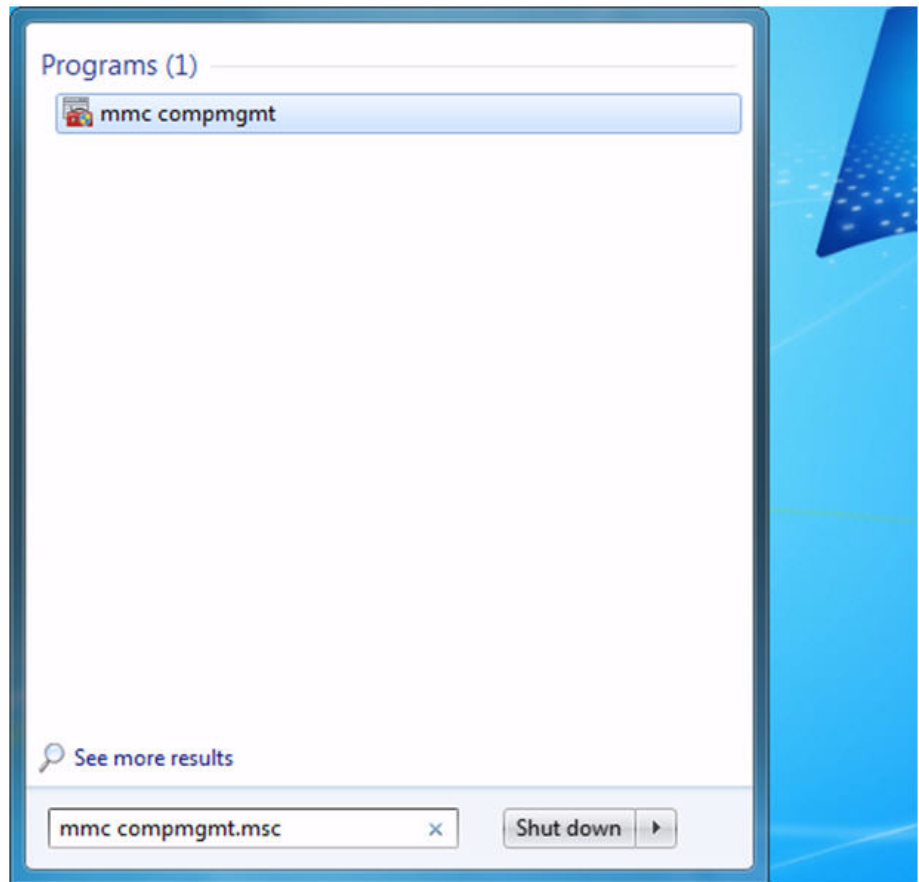

Figure 21. Windows 7 Search Box
3. To select the Device Manager in the Windows 7 Operating System, select the Start button. The Windows 7 Search Box is displayed. See Figure 21.
4. To select the Device Manager in the Windows 7 Operating System, select the Start button. See Figure 21 on page 49.